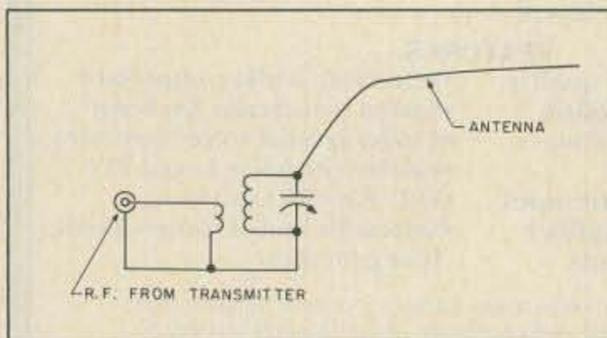

Fig. 2. *Feeding rf voltage to the end of a resonant antenna (parallel-tuned coil to give rf voltage).*
5. Link coupling can be used to take *rf* from the transmitter into a parallel-tuned inductor, one end of which is connected to the end of a resonant-length antenna. The other end of the parallel-tuned coil is connected to the grounding system (see Fig. 2). The *rf* energy, in the form of voltage, goes into the antenna wire and is radiated.